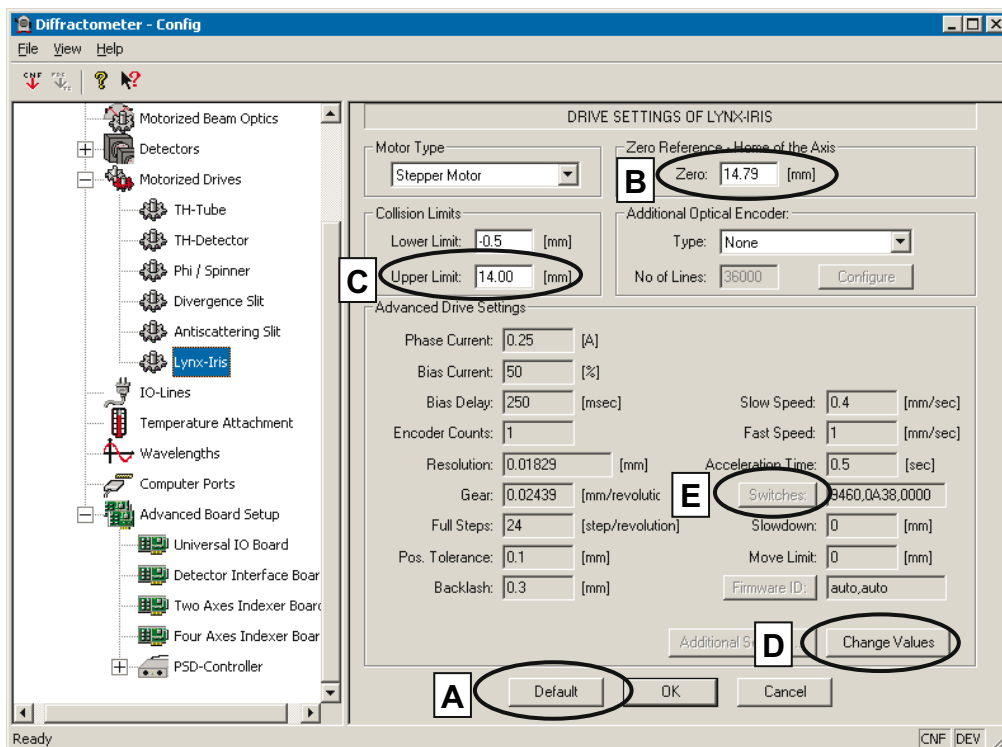

Figure 7.12 Lynx Iris Parameters
3. Activate the new defined Lynx Iris and press **Default** to preset all motor parameters (**A**) (see Figure 7.12)